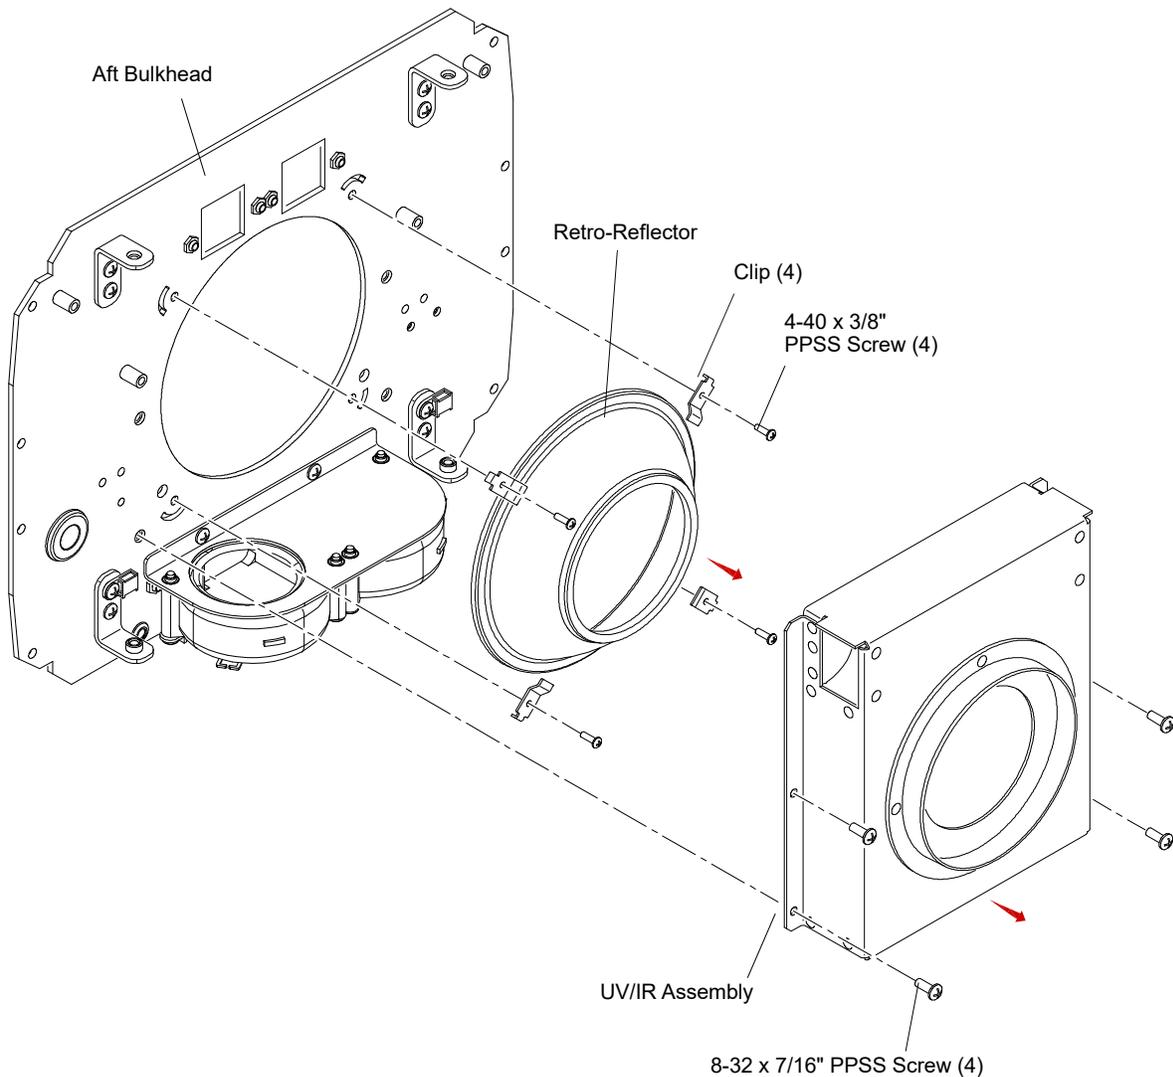

Figure 3-48: Replacing Retro-Reflector
- Step 7. Remove UV/IR Assembly by removing four 8-32 x 7/16" PPSS screws (**Figure 3-48**).